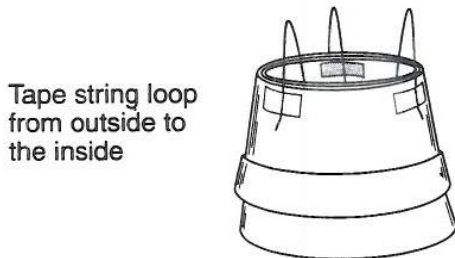

Figure 7. The Grappler with the strings attached
6. Repeat Steps 4 and 5 twice more, but place the strings about a third of the way (120 degrees) around the cup from the first string. When you are done your cups should look like Figure 7.